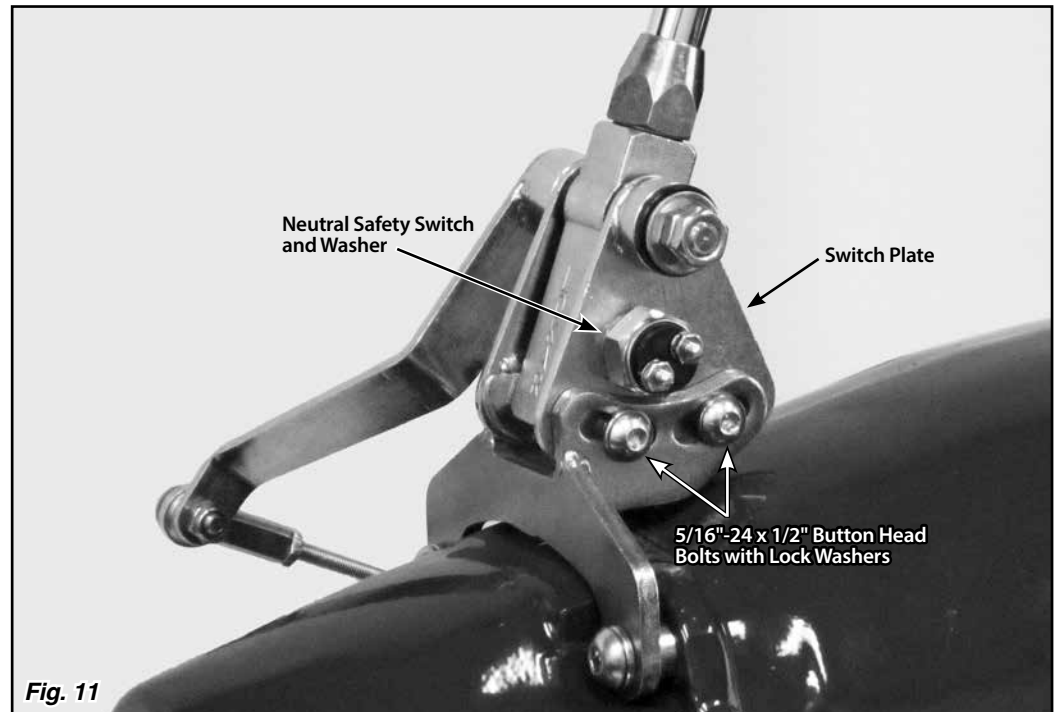

Fig. 11
Step 15: Remove the neutral safety switch and washer (**Fig. 11**) from the passenger side of the Shifter using a 7/8" wrench or socket.
Step 16: Loosen, but do not remove, the two 5/16"-24 x 1/2" button head bolts that connect the passenger side welded banana bracket to the switch plate (the bolts are in curved, slotted holes). **Fig. 11**